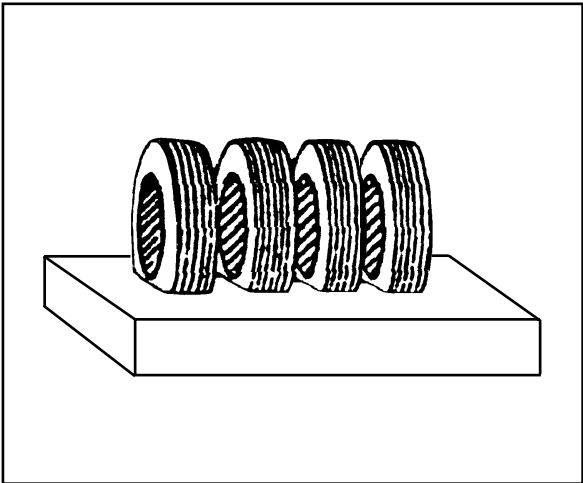

Figure 2. Tire reef, with the required four tires set into 180 pounds of concrete.
Materials of opportunity. By far the greatest effort in reef building has been with “materials of opportunity” (Figure 2). These include car bodies, tires, old bridges, oil rigs, ships, and almost any material that will sink. These have been placed off the Alabama coast. These materials will increase the catch. But, as has happened in Japan, the future is limited for “materials of opportunity.” One problem is that the productive life span of a car body is short—about 5 years. Another problem is that the actual effect of all the rusting metals on the ecology of our coastal waters is unknown. Many scientists are asking if our coastal waters are becoming the unwitting site of a huge junk pile!
- If tires are not on vehicles, a tire reef unit must contain at least 4 tires imbedded in a minimum of 180 pounds of concrete (Figure 2).